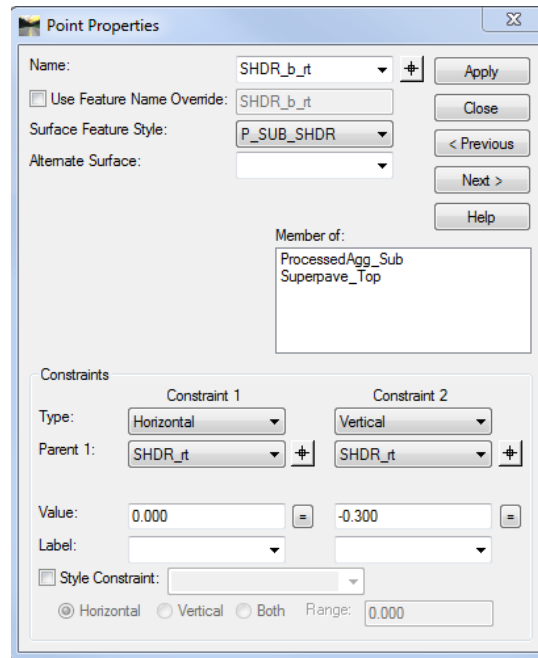

Figure 6-20 InRoads Point Properties Dialog Box
- Q. Go back to the **Create Template** and select the **Local_Rdwy** template. Click on the point **SHDR_b_rt** and change the constraint 2 value to **-.300**. (Seen Figure 6-20 below).